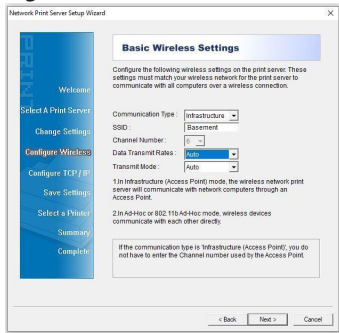

Figure 5
7. At the **Basic Wireless Settings** screen, change the **Communication Type** to **Infrastructure**. Change the **SSID** to the **Name of the Wireless Network** that the **Print Server** is to connect to. The other settings can be left unchanged. Select **Next**. (Figure 5)